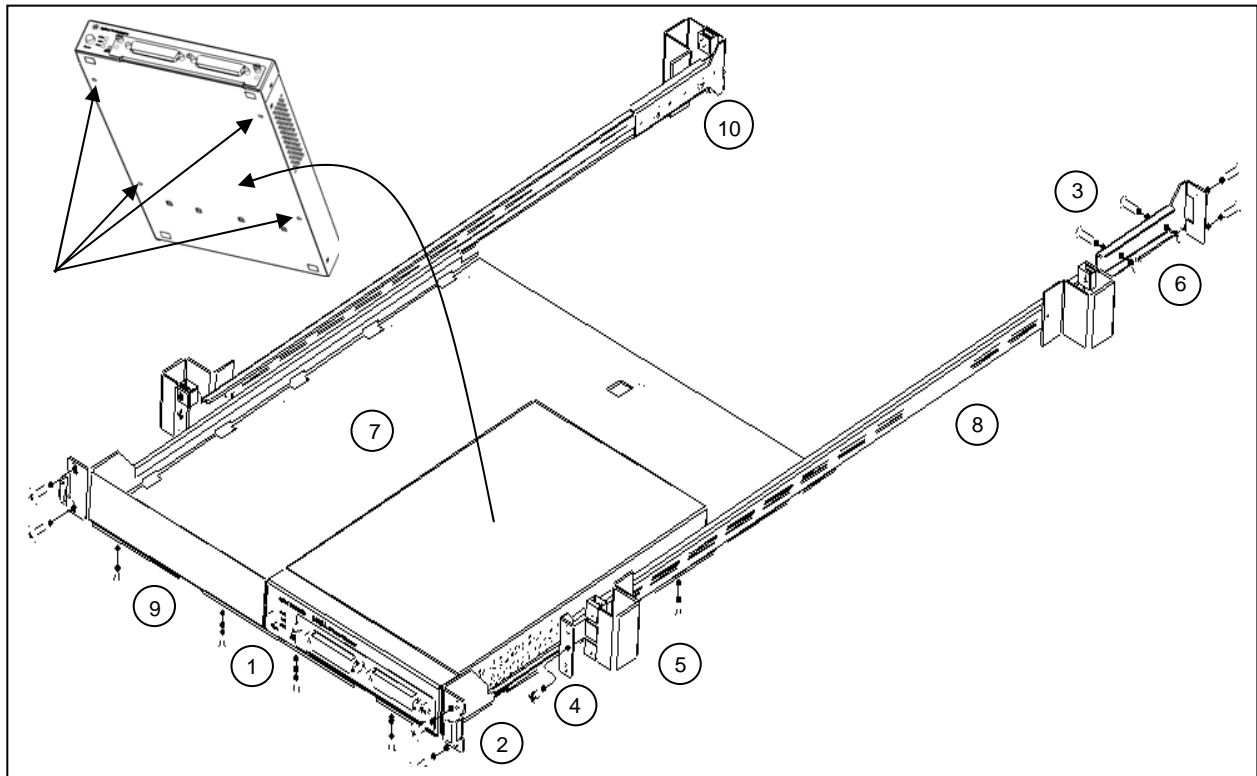
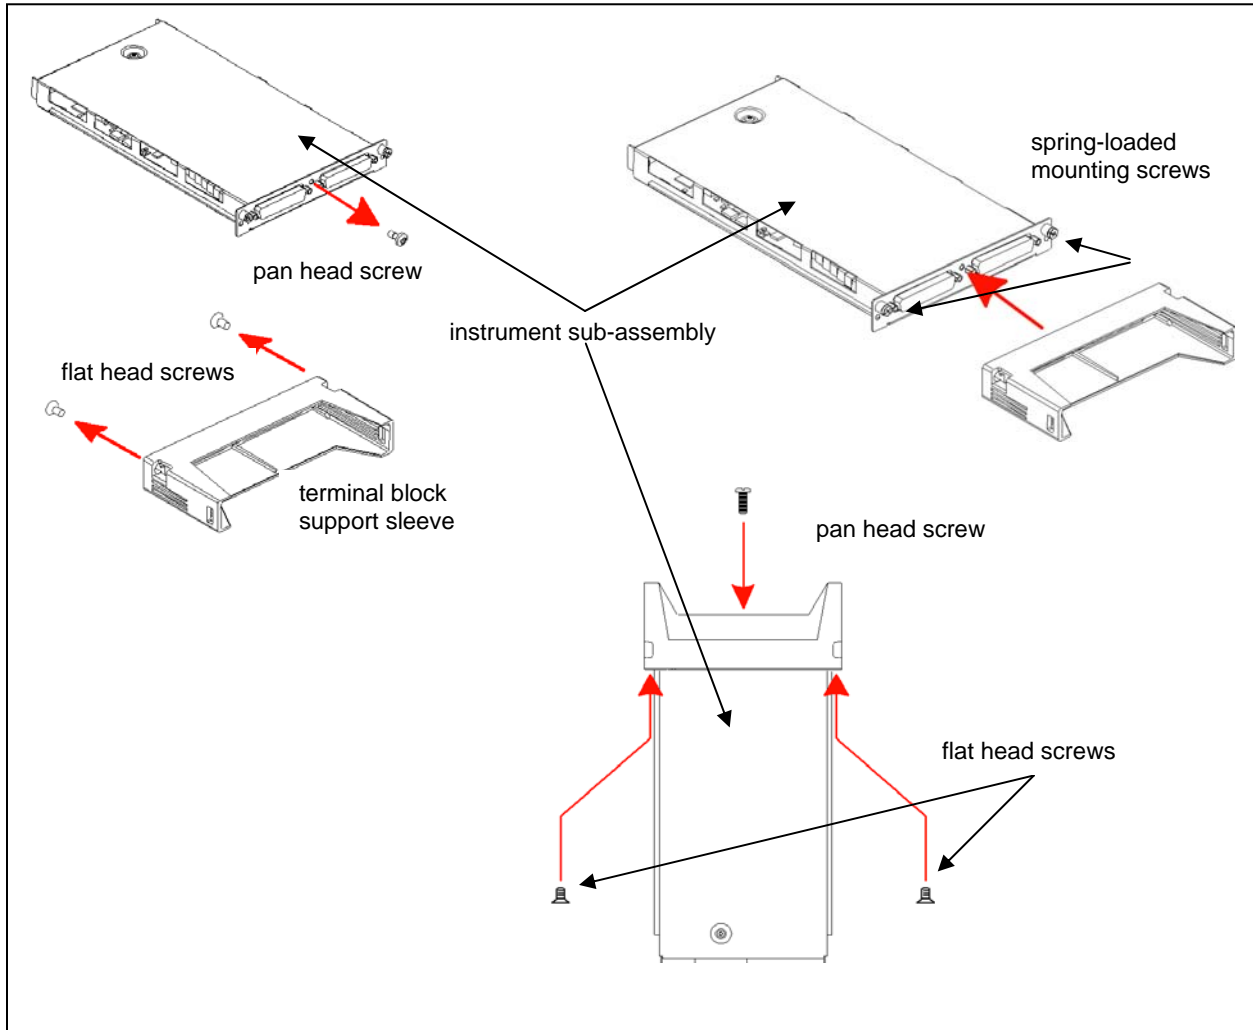

Figure 1. Y1160A Instrument Rack Mount Kit.
Figure 5. Connecting the Terminal Block Support Sleeve
Figure 1 is a composite drawing of the Y1160A sliding shelf rack mount kit. The drawing shows the location/usage of the hardware items listed in Table 1.
3. Note the location of the mounting holes on the bottom of the instrument (Figure 1). If present, remove the adhesive feet from the instrument. Place the instrument on the shelf and align the mounting holes with the holes on the shelf. Insert four M4x8 flat head screws (item 1) upward through the bottom of the shelf and into the mounting holes.
4. Install the second instrument (if present) in the shelf area adjacent to the first instrument. If only one instrument is installed, install a filler panel (item 9) on the front edge of the unused area. Insert two M4x8 flat head screws (item 1) upward through the bottom of the shelf and into the panel.
6. For instruments that have accompanying terminal blocks, partially remove the instrument sub-assembly from the instrument (carrier) by loosening the spring-loaded mounting screws (Figure 5). Remove the support sleeve from the terminal block. Locate and remove the flat head screws from the sleeve and remove the pan head screw from between the instrument's D-sub connectors. Connect the sleeve to the instrument using the flat head and pan head screws as shown. Reconnect the sub-assembly.